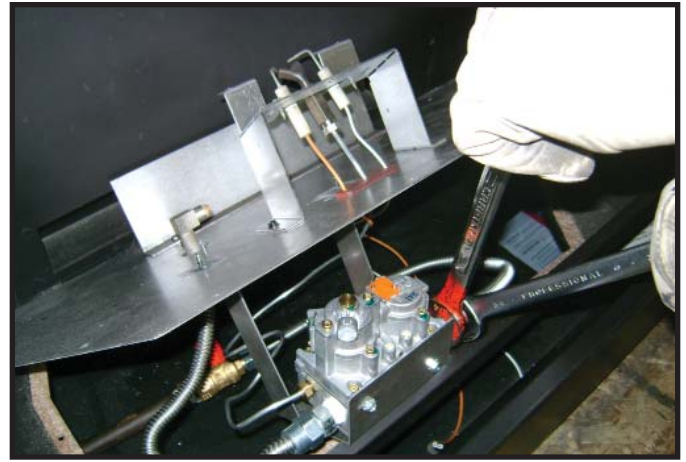
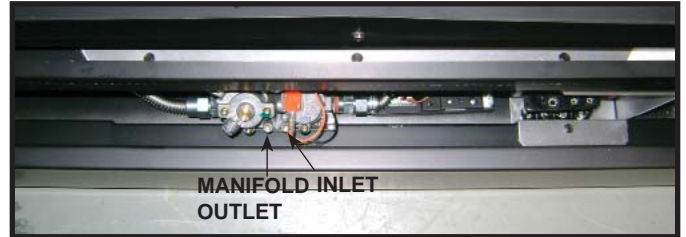

Figure 11.4. Disconnect Gas Valve
Figure 11.5. Pressure Taps
3. Set the valve bracket on the front lip of the firebox bottom. Turn “off” the ball valve. Disconnect gas valve from the gas flex ball valve assembly at the pressure fitting. See Figure 11.4.
**Note:** The manifold and inlet pressure tabs can be accessed from the front of the fireplace, this requires the decorative front and fixed glass assembly to be removed (see Figure 11.5). The manifold and inlet pressure tabs can also be accessed by removing the valve assembly (see Figure 11.4).